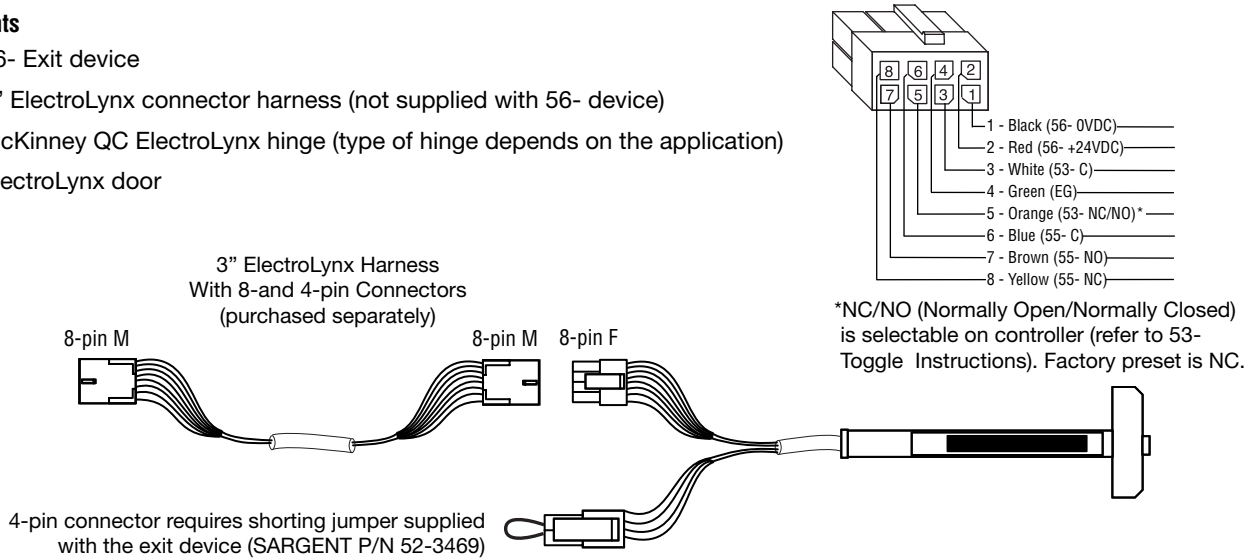

Fig. 6 ElectroLynx POWER MODE Wiring
2. Connect the ElectroLynx harness in the door (Fig. 6 ElectroLynx **POWER MODE** Installation):
- a. Leave the shorting jumper connected to the 4-pin ElectroLynx connector (Fig. 6 ElectroLynx **POWER MODE** Installation).
Note: Earth Ground is required for Electrostatic Discharge (ESD) protection unless the metal door and frame are already earth grounded; otherwise, earth ground wiring is required at pin 4 (Fig. 6 ElectroLynx **POWER MODE** Wiring).
<ul style="list-style-type: none"> <li>o Check inputs to confirm proper voltage and wiring orientation (Fig. 6 ElectroLynx POWER MODE Installation).</li> <li>o Remove end cap from rail and confirm that LED is blinking steadily when power is applied. If not, refer to LED signaling. Note: When configured in POWER MODE, power is released to lock the device (LED will not blink when power is released).</li> <li>o Verify that the 4-Pin Molex shorting jumper is installed (connector with bright orange tag).</li> </ul>